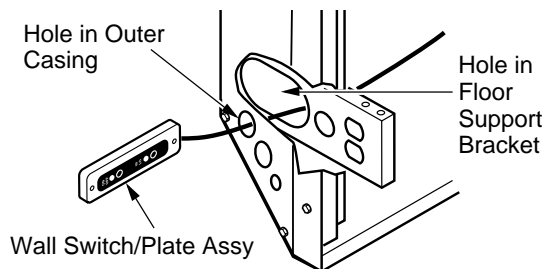

Figure 9 - Routing Wall Switch/Plate Through Fireplace for Relocation
5. Carefully pass wall plate and cord through large elongated hole in rear of either left or right floor support bracket, depending on desired location of switch. Pass wall plate and cord through 1.5" diameter hole in side of fireplace outer casing (see Figure 9).